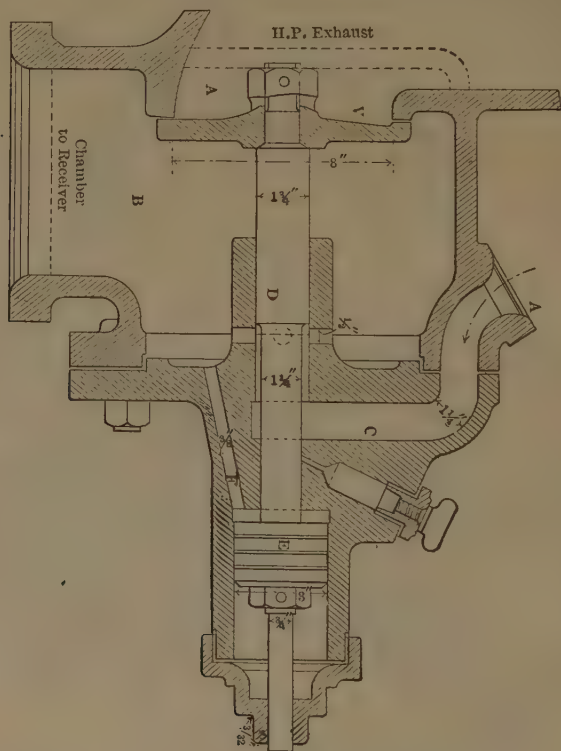

Fig. 343. Von Borries Intercepting Valve.
A. As shown in Fig. 343, it is in the side of the smoke-box and joined at *A* to the live steam pipe. Live steam passes into *C*, pressing the spindle *D* into the position shown (thus closing the main valve *V*) and enters the chamber *B*, in communication with the receiver and the L. P. chest. Live steam